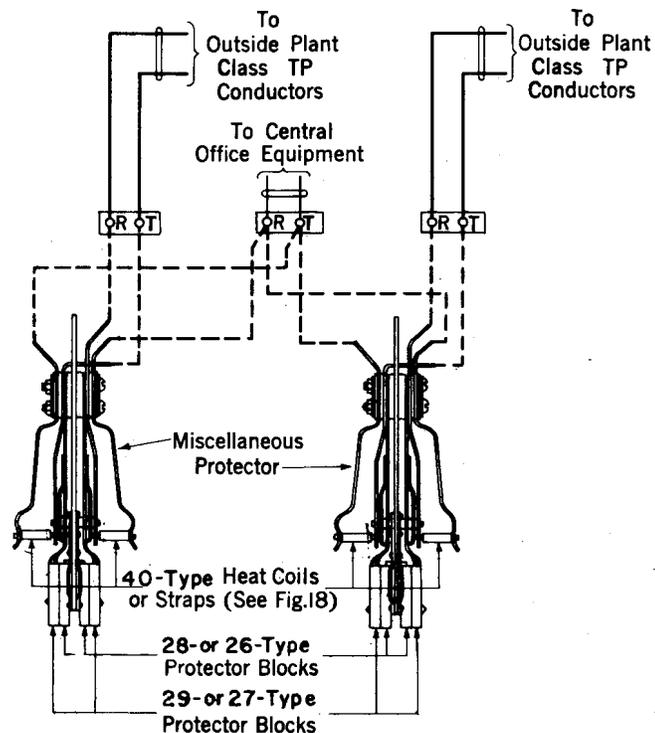

Fig. 32—Class TP to Class TP Conductors—Looped—Bridged to Central Office Equipment Terminated on Terminal Strip
6.34 Where it is necessary to bridge cable conductors looping through an office and where the bridged circuit is cabled to protectors, protection shall be provided as shown in Fig. 31. Where the circuit terminates on terminal strips, protection shall be provided as shown in Fig. 32.